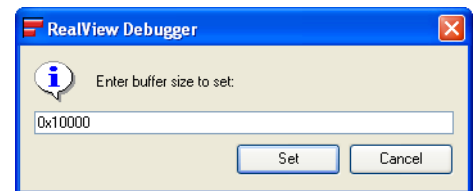

Figure 3-1 Setting the size of the trace buffer
1. Select **Edit** → **Set Trace Buffer Size...** from the menu to open the Prompt dialog box. Figure 3-1 shows an example: